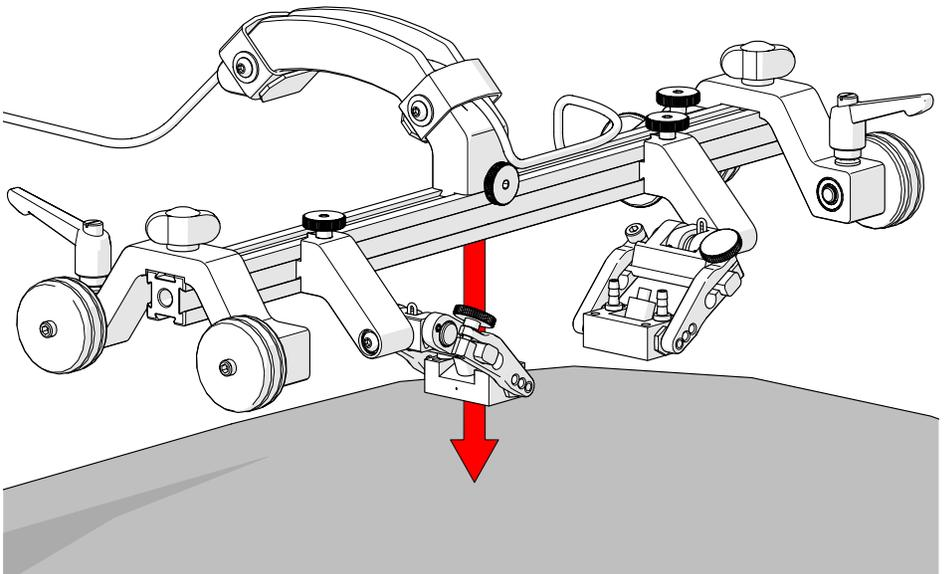

Fig. 51 - Place on scan surface
5. Place the configured **STIX** on the scan surface (Fig. 51).